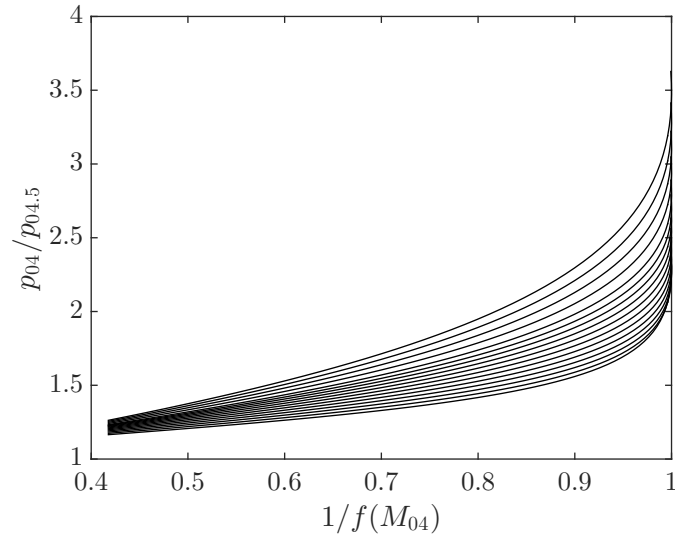

Figure 3: Initial turbine map.
- (3) Compute $f(M_{04})$;
- (4) Compute $1/f(M_{04})$.
- b) [8 pts] The initial turbine map is shown in Figure 3.